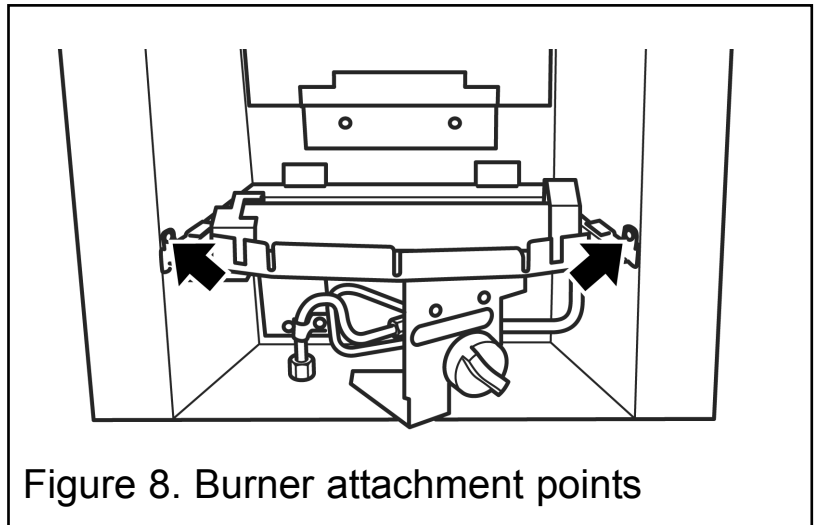

Figure 8. Burner attachment points
2. Detach the burner unit from the hotbox by removing two screws - See figure 8. Lift the burner unit clear.